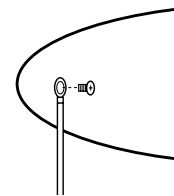

Figure 8
4. Connect ground wire and fixture to housing (See Fig. 8)